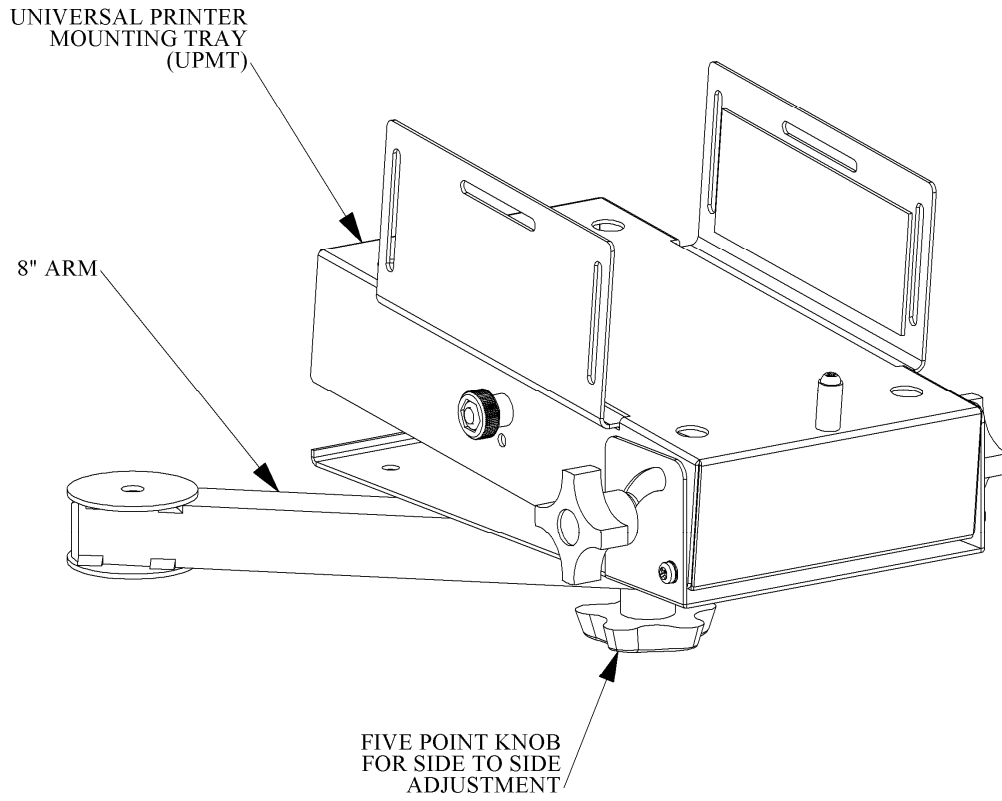

Figure 5 - An 8" arm and a UPMT
3. Install the printer tray on the end of the arm (See Figure 5).
The width of the UPMT will expand to support printers from 5” to 9 ½” wide. To extend or retract the sides of the tray, turn one of the small round knobs on either side of the tray until the desired width is adjusted (See Figure 5).